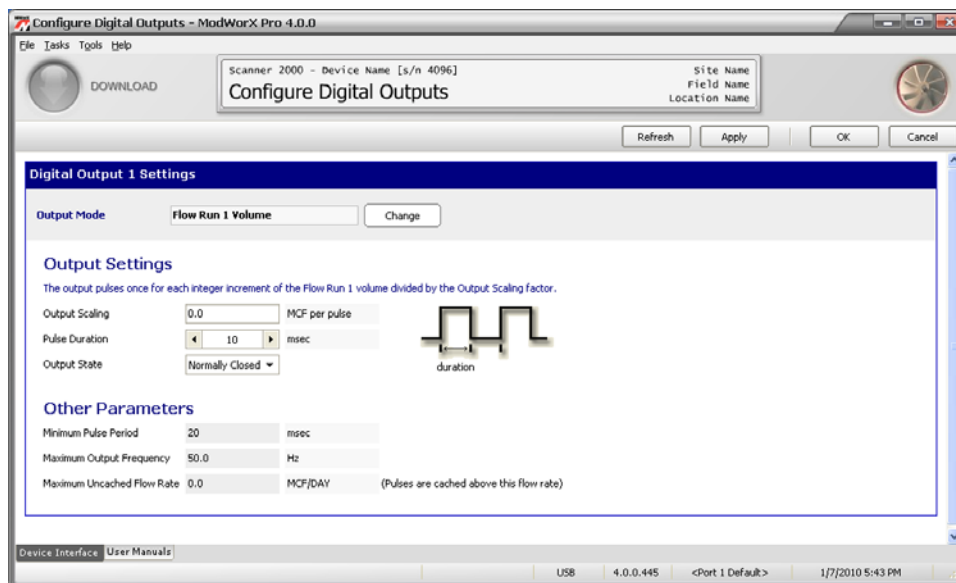

Figure 7.6
- Click **OK** to save the setting and return to the Configure Digital Outputs screen (Figure 7.6, page 98).